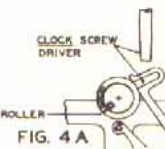

**FIG. 3
1. Remove case front from metal back. Front (1) can be removed by loosening knurled screw (2) at bottom and lifting case off of pin or lip (3) at top. Remove straight out to prevent bending dial.
2. Screws for mounting clock on wall will be found fastened to left hand battery shelf at (4). Insert the large mounting screw (5) in wall with head pointing up. Locate screw directly above point where dial center is desired. Distance between dial center and mounting screw (Dimension A Fig. 3) can be ascertained from table below.